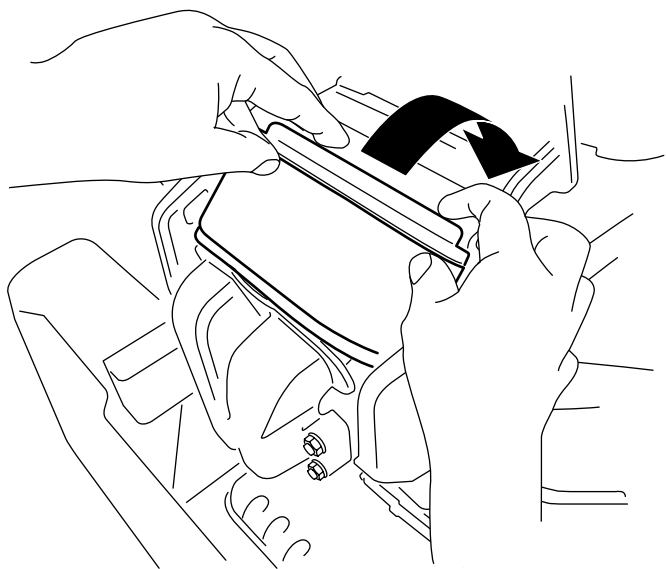

Figure 32
- 3. Rotate the filter down into the chamber and fully seat it against the manifold (Figure 32).